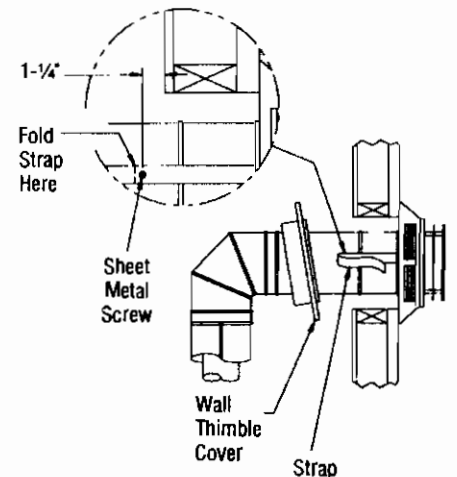

Figure 19
F. Slide the appliance and vent assembly toward the wall, carefully inserting the vent pipe into the vent cap assembly. It is important that the vent pipe extended into the vent cap a sufficient distance so as to result in a minimum pipe overlap of 1-1/4 inches. Secure the connection between the vent pipe and the vent cap by attaching the two sheet metal strips extending from the vent cap assembly into the outer wall of the vent pipe. Use two sheet metal screws provided to connect the strips to the Pipe Section (Figure 19).